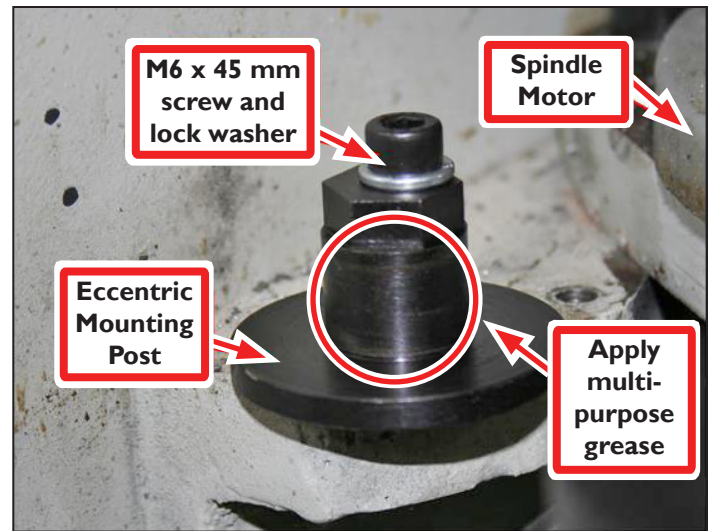

Figure 10
5. Mount the Eccentric Mounting Post to the pre-existing hole formerly used to mount the spindle lock plate with M6 x 45 mm Screw and Lock Washer (see **Figure 10**).
6. Put multi-purpose grease on the area shown in **Figure 10**.